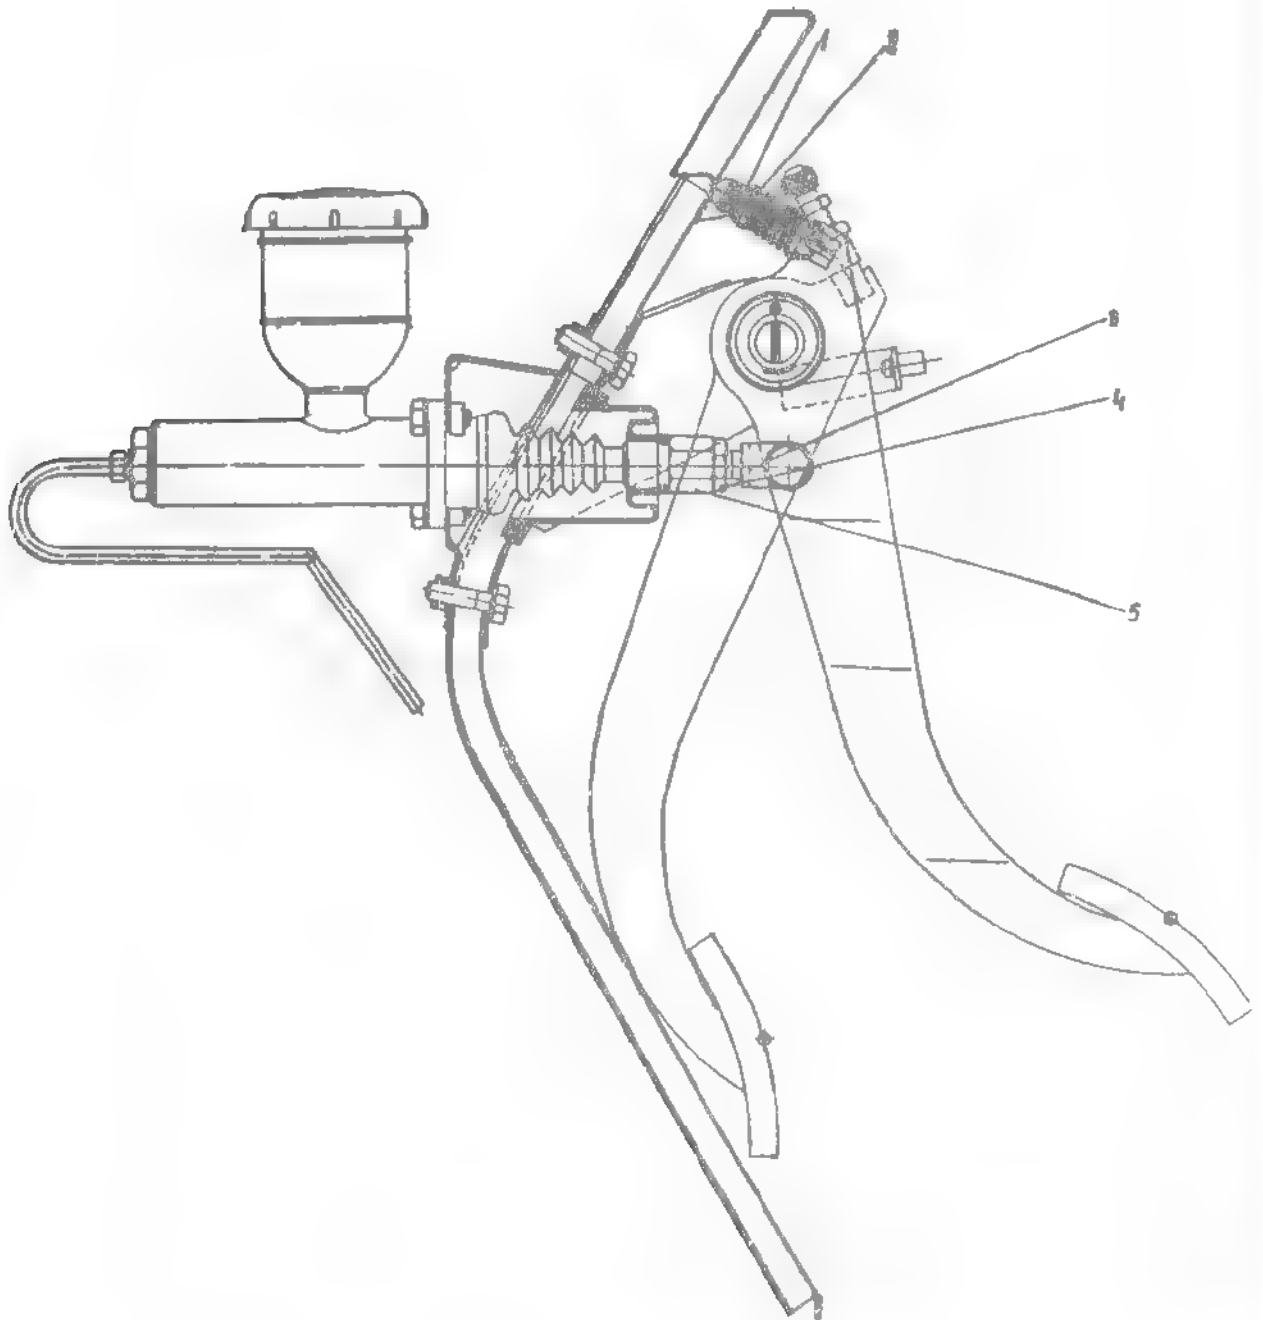

Fig. 2.38. BRAKE & CLUTCH HYDRAULIC CONTROL SYSTEM
- The operation is carried out inside the car (see fig.2.38). For this:
- Now adjust pedal position adjusting screw (1) till the lower point of pedal touches the top margin of V.101 device and adjusting screw contacts cowl. Now, tighten back nut of the screw (1).
- To adjust pedal stroke, slacken lock nut (4) and screw or unscrew piston pushing rod (5) so that a small play remains between piston and piston pushing rod (5), allowing a 10-15 mm free travel of pedal.
- In this position of piston pushing rod tighten lock nut (4).